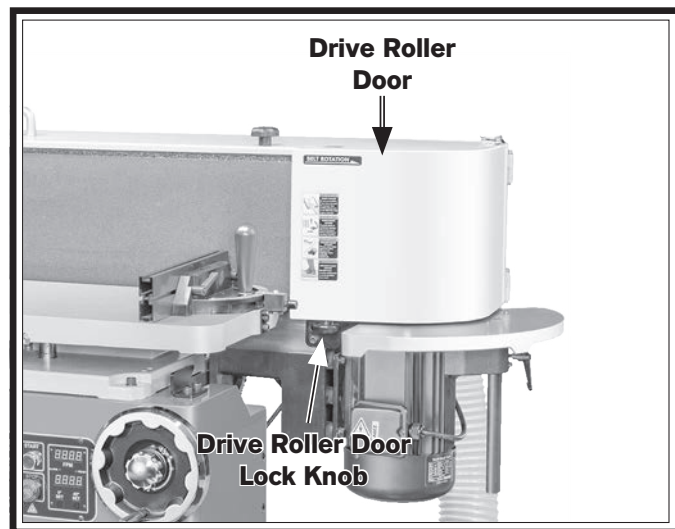

Figure 29. Drive roller door secured closed.
7. Secure drive roller door before proceeding with operations (see **Figures 29–30**).